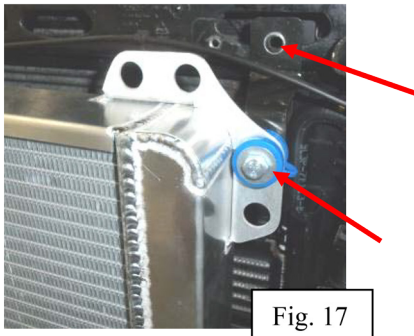

Fig. 17
17. Attach the upper driver side bracket to the heat exchanger using the supplied 13mm bolt and washer. Place the 1.38" x 1.38" tapped plate into the opening in the radiator support. Using the Roush 10mm bolt attach the upper driver side bracket to this plate (Fig. 17).